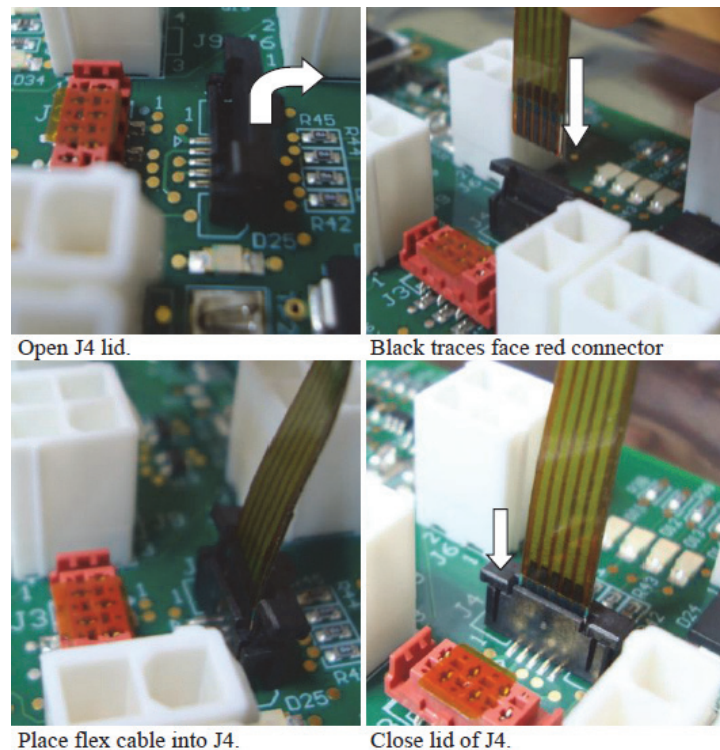

Figure 2
7. Slide the Rotary Encoder into the machine and disconnect the ribbon cable from the J3 connection on the board. See figure 2.
8. Disconnect the Flow Control Indicator ribbon cable from the J4 connection on the control board. See figure 2.
4. Attach the Rotary Encoder Ribbon Cable to J3 on the control board. See figure 2.
5. Attach the Flow Control Indicator Ribbon Cable to the J4 connection on the control board. See figure 2.